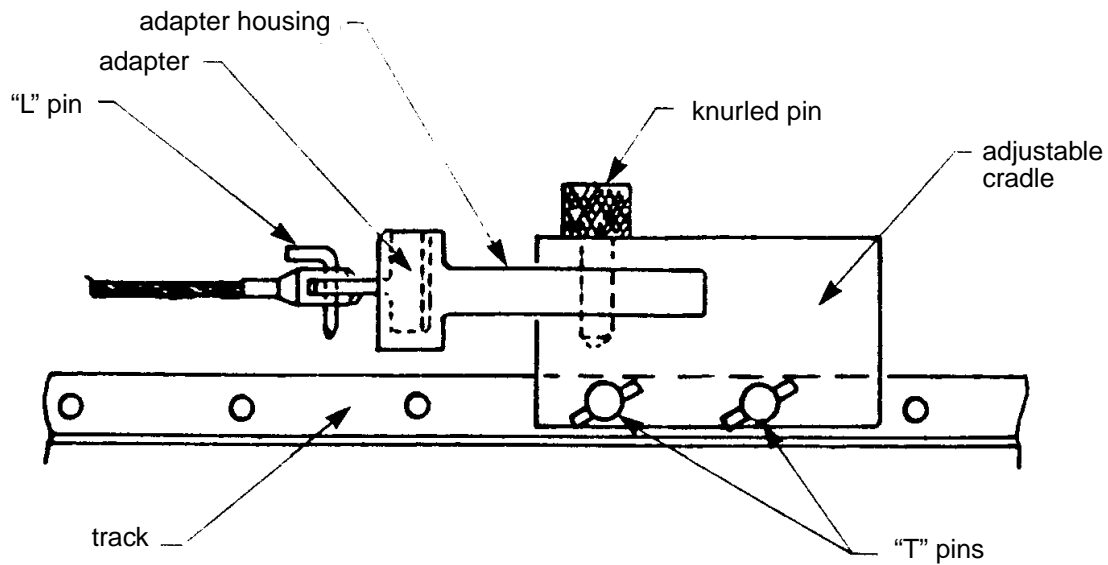
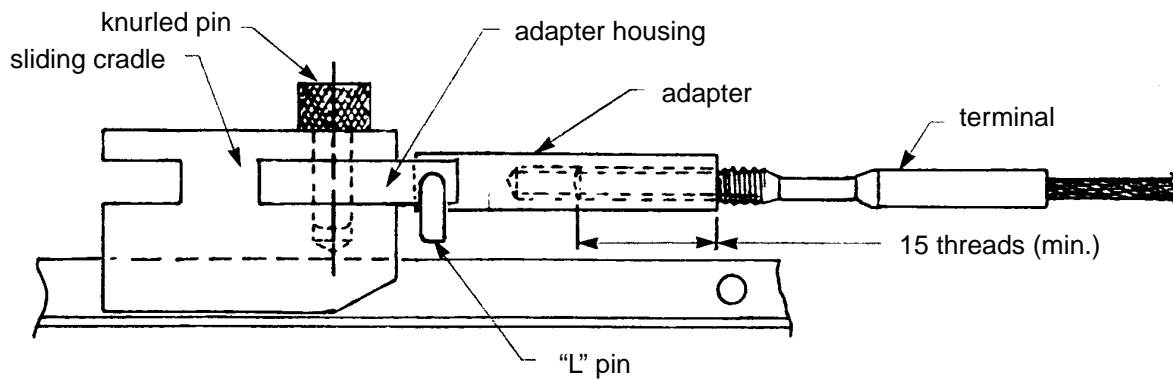
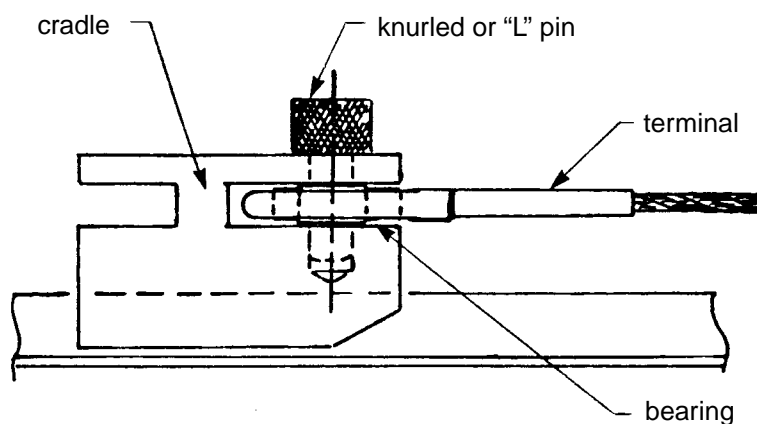
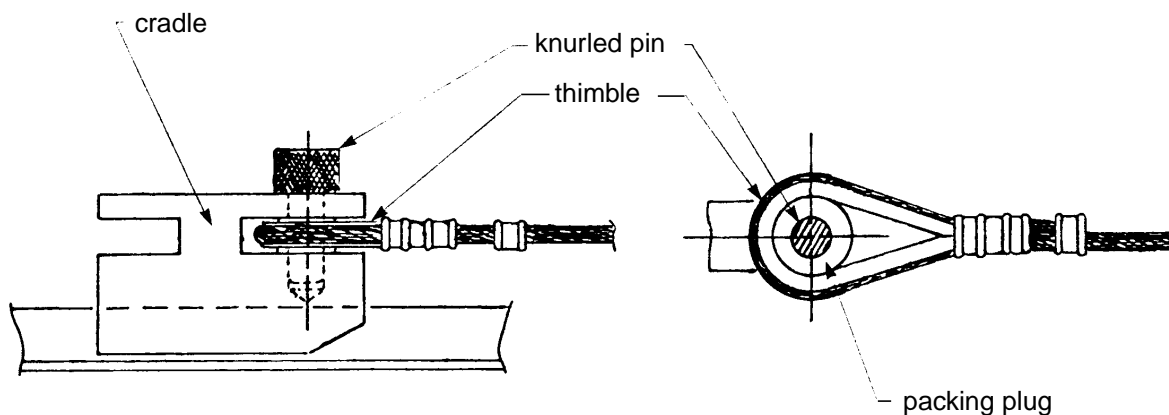

Figure 2 - Forked End Terminal
Figure 3 - Threaded Terminal
Figure 4 - Spherical or Anti-Friction Bearing Terminal
Figure 5 - Loop Terminal
- When securing cable or chain assemblies to the test bench cradles, use adapters matching the terminals and, if necessary, adapter housings, as shown in Figure 2, Figure 3, Figure 4 and Figure 5.
- Use “L” pins for fastening forked ends or similar terminals to adapters. Ensure a sliding fit of the “L” pin in the holes of the terminals and adapters (see Figure 2).
- When connecting threaded terminals to adapters, ensure that at least 15 threads of the terminal engage with the adapter (see Figure 3).
- Secure terminals incorporating spherical or anti-friction bearings to the test bench adapters by means of suitable “L” pins through the centre of the bearing (see Figure 4).
- Secure loop terminals (with or without thimbles) to the test bench cradles using suitable pins and, if necessary, packing plugs as specified in Table 1 (see Figure 5).